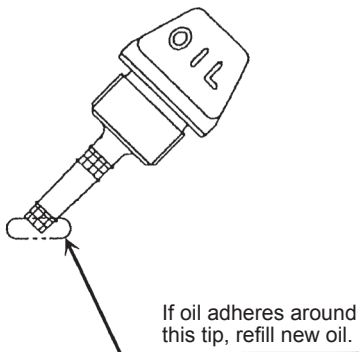
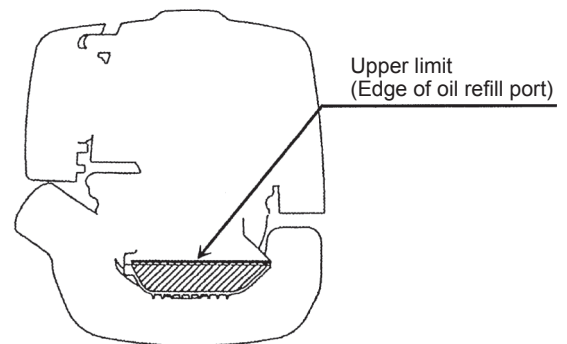

Fig. 1
Fig. 2
- While keeping the engine level, remove the oil gauge, and confirm that the oil is filled within the upper and lower limit marks. When the oil is in short in such a way that the oil gauge touches the oil only by its tip, in particular with the oil gauge remaining inserted in the crankcase without screwing-in (Fig. 1), refill new oil near the port (Fig. 2).
(1) Keep the engine level, and detach the oil gauge.
(2) Fill oil up to the edge of the oil refill port. (Refer to Fig. 2 of the preceding page).